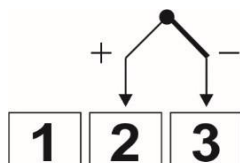

Figure 10 – Thermocouple connection
- Thermocouples:** Figure 10 shows the connection mode for thermocouple sensors. If you need to extend the thermocouple wires, use appropriate compensating cables.